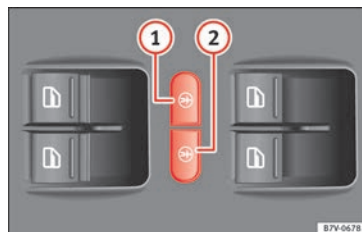

Fig. 135 In the driver door: electric child safety locks buttons
The electric child safety lock avoids opening and locking of the sliding door and its electric windows from the inside so that children cannot accidentally open the door while the vehicle is being driven. Using the left-hand **»» Fig. 135**  or right-hand side  button, the childproof lock is activated on the left- or right-hand side respectively. **»»**
To switch system on:	Press the button » Fig. 135 ① or ②.